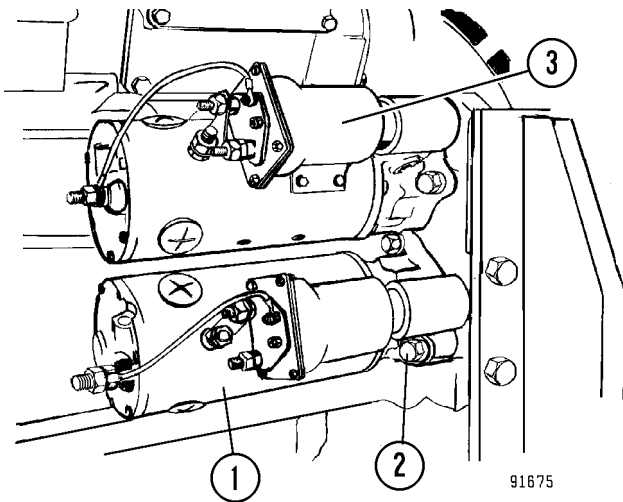

FIGURE 2-1. TYPICAL STARTER INSTALLATION
25. Connect the hydraulic pump drive shaft from the alternator to the companion flange on the pump. Refer to Figure 2-1. Tighten the cap screws to standard torque. Install the drive shaft guard.
1. Align cranking motor (1, Figure 2-1) with the fly-wheel housing adapter mounting holes and slide into position.
2. Insert motor mounting cap screws and lock washers (2).